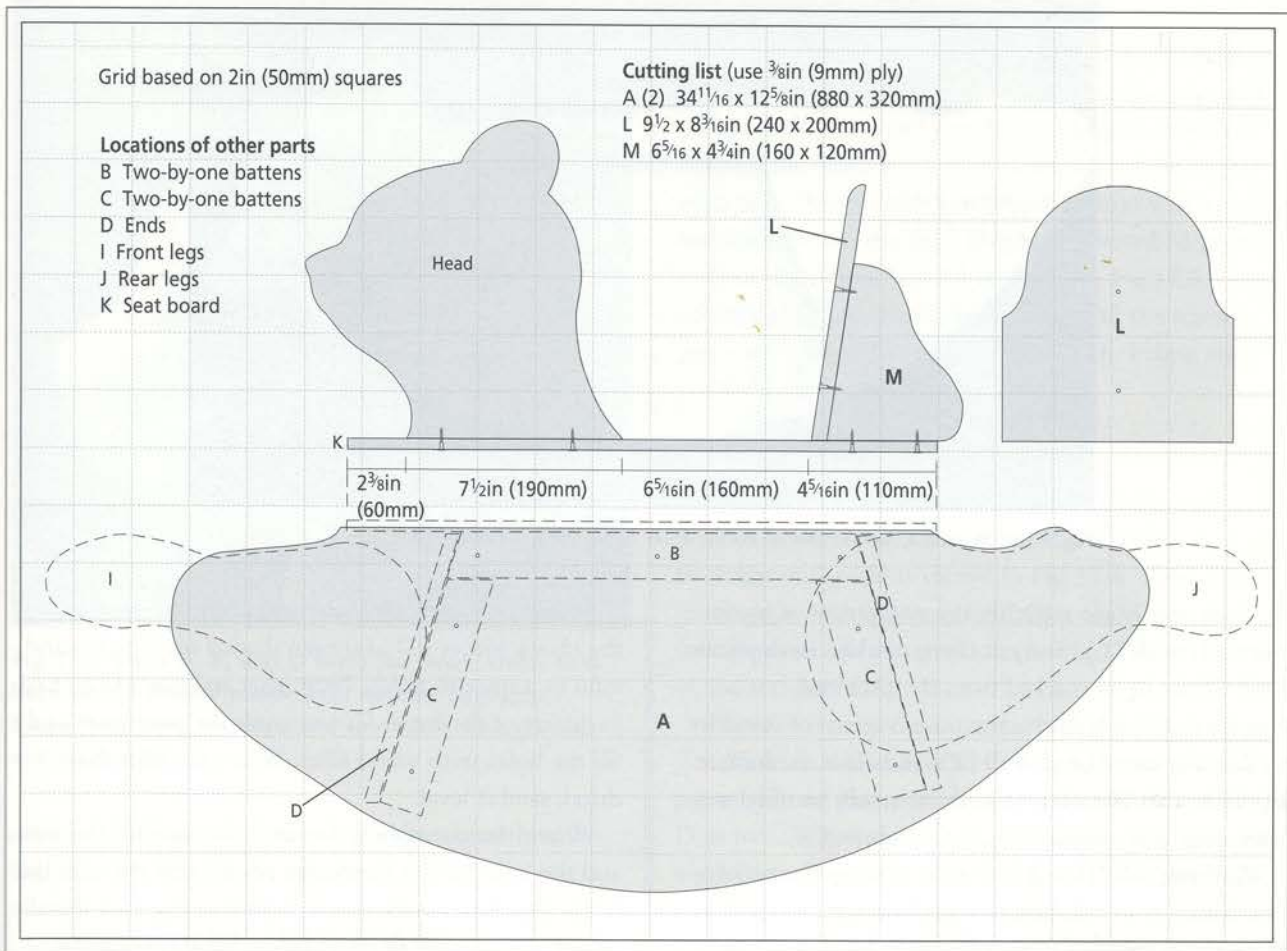

Fig 17.4 The dimensions for A can be transferred from this grid. The positions of the other parts are also shown.
Saw the back rest (L) and the two M parts to shape (see Fig 17.4). Drill the two holes shown on the plan and countersink. Glue and pin the two M parts together, keeping the edges level. With a file, round the upper edge of L. Follow with sandpaper to remove sharp edges and corners. Do the same for the combined M parts.
Glue and screw L to M as shown in Fig 17.4, keeping the base of each piece level. Fill the screw holes with wood filler and sand smooth. Prime and paint the completed assembly.
Smear glue on the base of the head assembly and position it on top of the seat board (K), then screw from the underside as shown in Fig 17.4. Wipe away excess glue with a damp cloth. Glue and screw the back-rest assembly in position (see Fig 17.4) at the rear of the seat board.
Finally, glue and screw the four legs in the position marked on the plan (see Fig 17.4) onto the rocker sides (A).